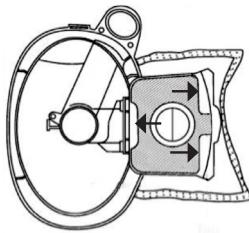

Fig. 14
3. Flip the Canister Lid upside down and place your finger beneath the tabs on the Dust Bag holder and flip upwards to lift the Dust Bag (Fig. 14).
4. Holding the Dust Bag (20) in your hand, slide it carefully through the slots of the Dust Bag Holder and dispose of the Dust Bag (Fig. 14).
5. Insert a new Dust Bag and ensure the cardboard face of the new bag rests securely in the Dust Bag Cover guides (Fig. 14).